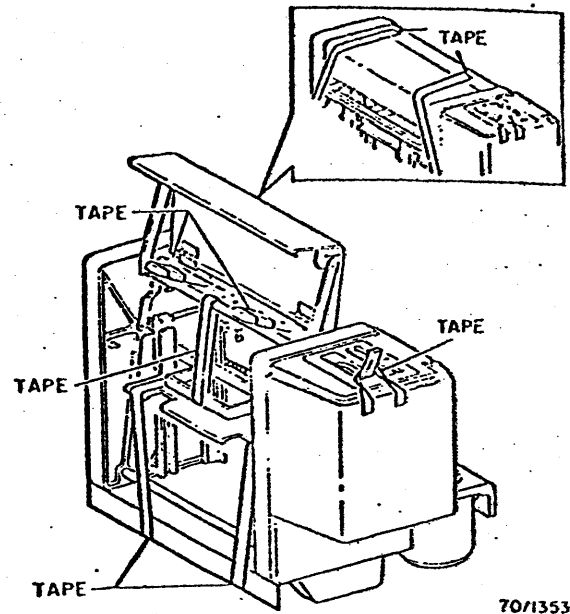

Fig. 2-1. Tape Locations on Paper Feeder
3. Remove tape and ties from paper feeder area (Fig. 2-1).